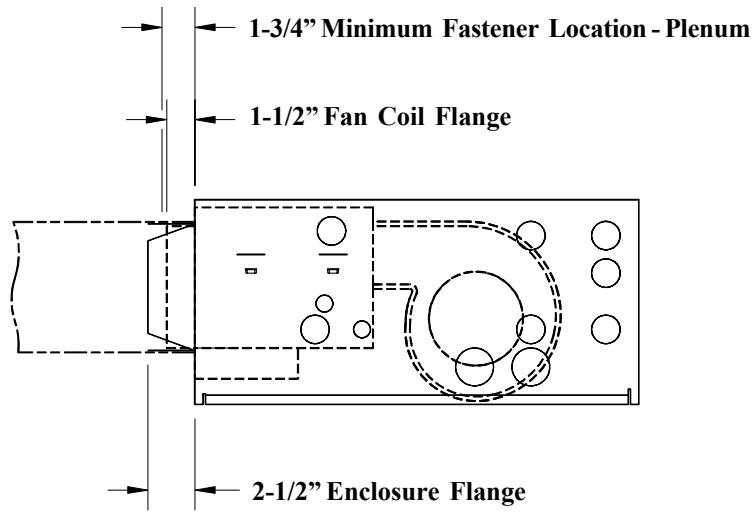

Figure 5
**The fan coil unit protrudes approximately 1-1/2 inches into the supply duct flanges on the enclosure. (Figure 5)**